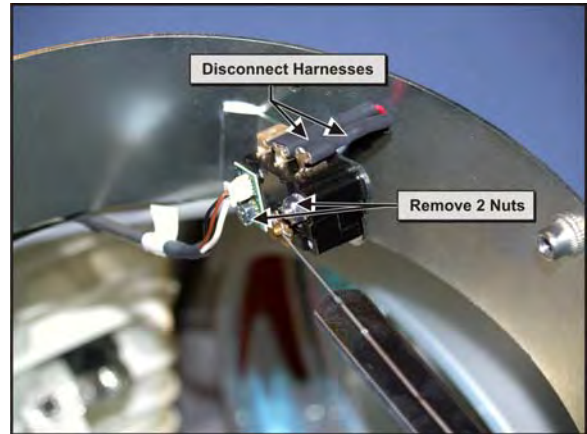

Figure 5-68 Exhaust Duct Vane Switch
3. Disconnect the two harnesses. (**Figure 5-68**)
4. Remove the two nuts (5.5mm) securing the vane switch to the mounting bracket. (**Figure 5-68**)